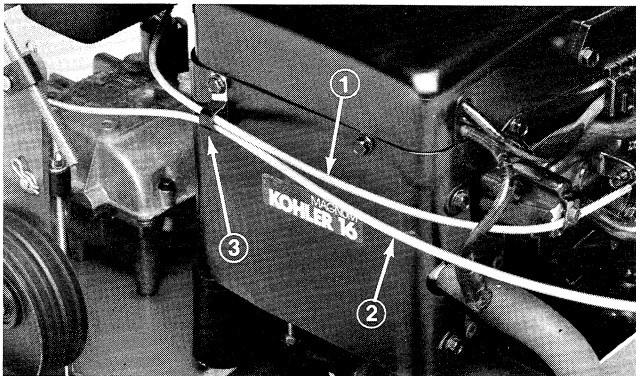
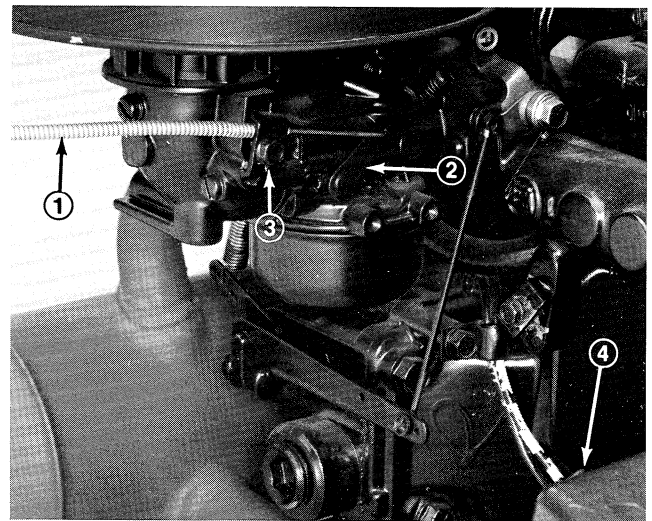

Figure 5
Figure 7
2. Route throttle cable around right side of engine (Fig. 5).
2. Route choke cable around right side of engine (Fig. 5). Hook cable end into hole in carburetor choke lever (Fig. 7).
3. Loosen cable clamping screw allowing cable installation, but do not tighten (Fig. 7).
4. Pull firmly on choke cable and tighten cable clamp screw (Fig. 7).
5. Secure choke and throttle cables to right side of engine with cable clamp and engine cover mounting bolt (Fig. 5).
1. Route harness around left side of engine and secure male and female connectors at front of engine (Fig. 7).